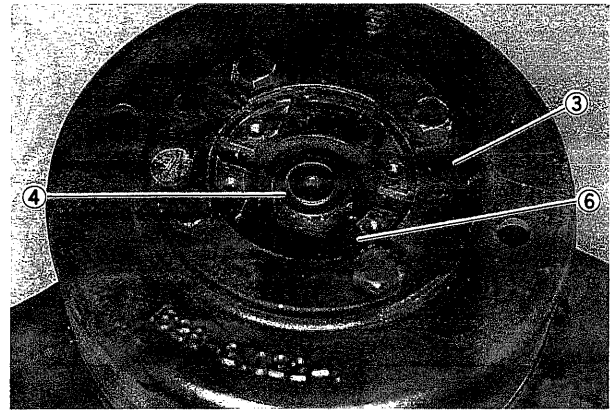

Fig. 153
- (1) After removal of drive shaft, remove nut (4) and demount brake drum (3) and flange (6) as an assembly (Fig. 153).